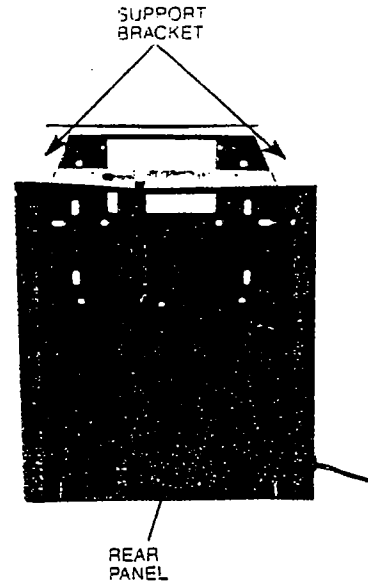

FIGURE 2
1. Lay rear panel of stand on the ground. (Figure 2).